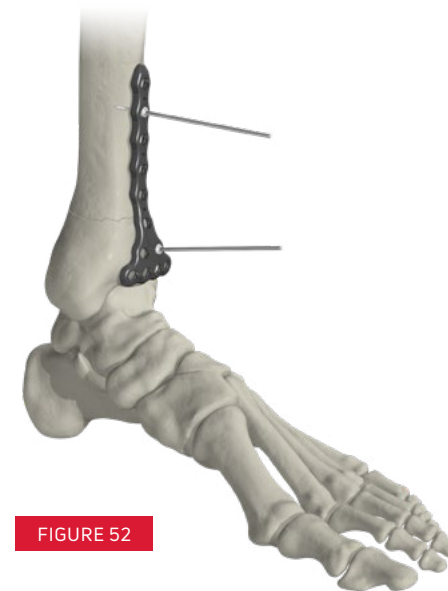

FIGURE 52
2. Select the anterior plate appropriate for the fracture type and size. Temporarily fixate the plate to the tibia by placing 1-2 Olive Wires or K-wires in the plate's screw holes or temporary fixation holes (FIGURE 52), per surgeon preference. Confirm plate placement using fluoroscopy.